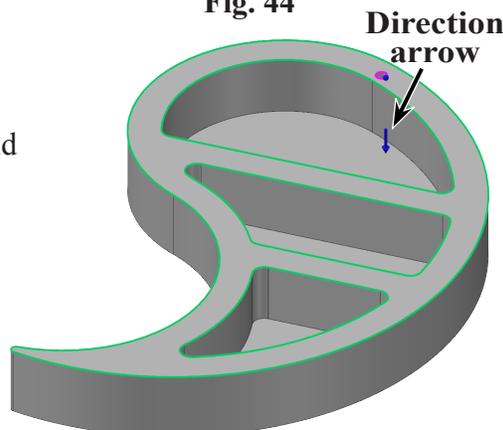

Fig. 46
- The direction arrow should point down, Fig. 46.